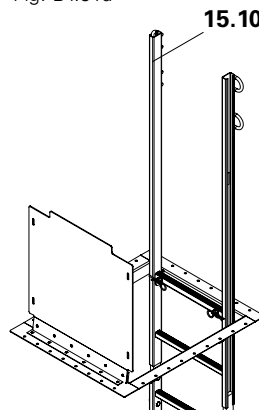

Fig. B1.51b
2. Attach top rung or second rung on the hatch and secure with cotter pins (Fig. B1.51b + B1.51c)